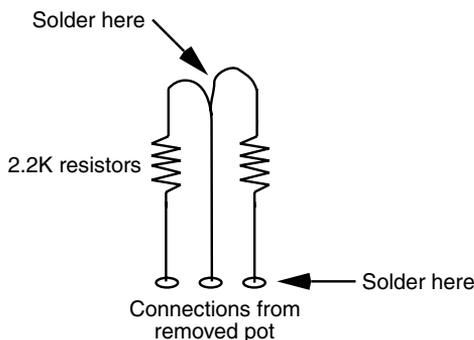
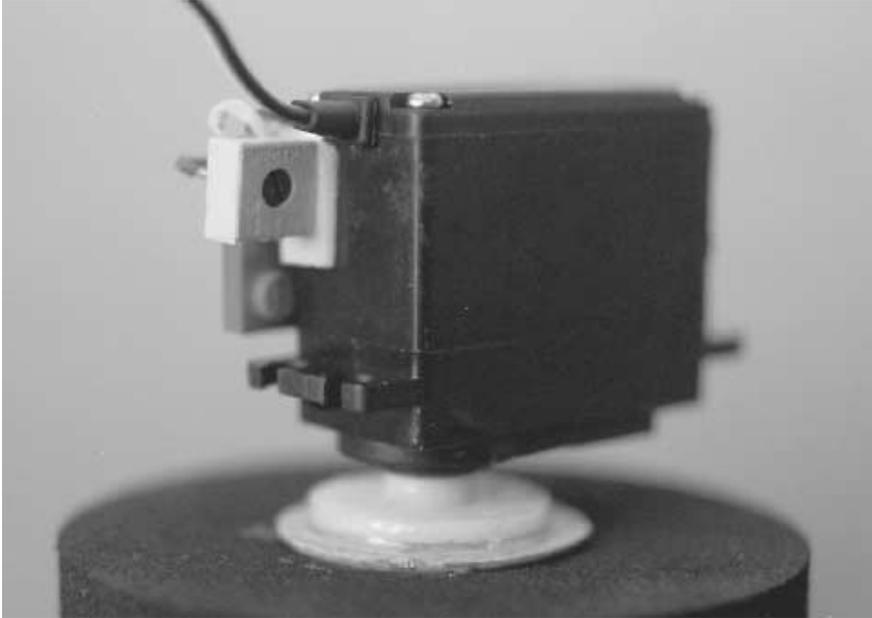

FIGURE 20.9 To modify a servo you must replace the internal potentiometer with two 2.7K resistors, wired as shown here.
FIGURE 20.10 For greater control and accuracy, use an external 5K or 10K pot to replace the one removed from the servo.
3. Remove the potentiometer and replace it with two 2.7K-ohm 1 percent tolerance (“precision”) resistors, wired as shown in Fig. 20.9. This fools the servo into thinking it’s always in the “center” position. An even better approach is to relocate the potentiometer to the outside of the servo case, so that you can make fine-tune adjustments to the center position. Alternatively, you can attach a new 5K- or 10K-ohm potentiometer to the circuit board outside the servo, as shown in Fig. 20.10.
5. If using fixed resistors, solder them in place as shown in Fig. 20.9. If using a 5K potentiometer, follow the additional steps provided in “Basic Modifications Instructions,” earlier in the chapter.
6. If using fixed resistors, solder them in place as shown in Fig. 20.9. If using a 5K potentiometer, follow the additional steps provided in “Basic Modifications Instructions,” earlier in the chapter.